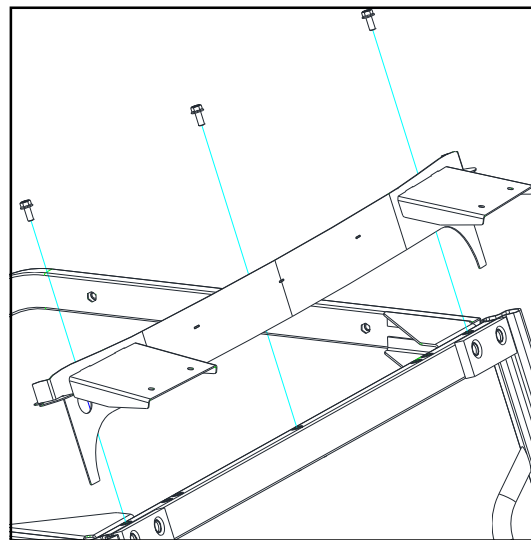

Fig. 6.2
6.2 Per Figure 6.2, fasten the windshield support to the front ROPS bar using the factory installed inserts and the hardware listed below. **Tighten the bolts at this time.**